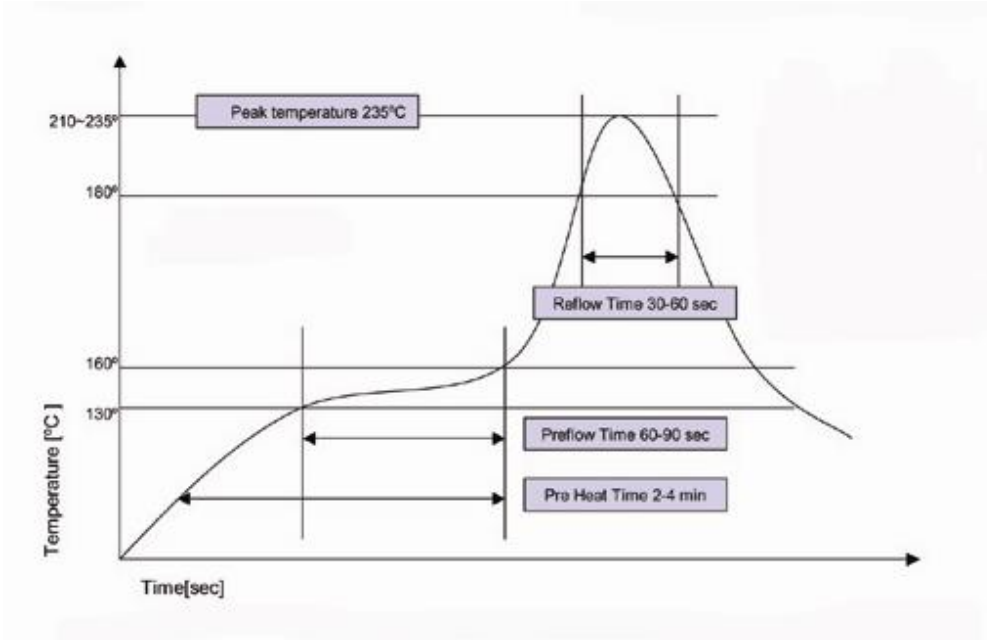

Figure 5 – Low Temperature Solder Reflow Thermal Profile
**Reflow:** The surface mount coupler is conducive to most of today’s conventional reflow methods. A low and high temperature thermal reflow profile are shown in Figures 5 and 6, respectively. Manual soldering of these components can be done with conventional surface mount non-contact hot air soldering tools. Board pre-heating is highly recommended for these selective hot air soldering methods. Manual soldering with conventional irons should be avoided.